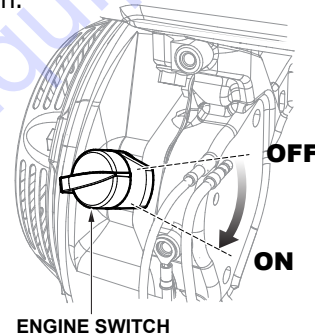

Figure 14. Engine ON/OFF Switch (ON Position)
5. Place the engine **ON/OFF** switch (See Figure 14) in the **ON** position.